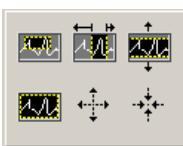

Figure 44
- Zoom - button: Enables zoom in and out of the display. The zoom button enables several options as shown in Figure 44.